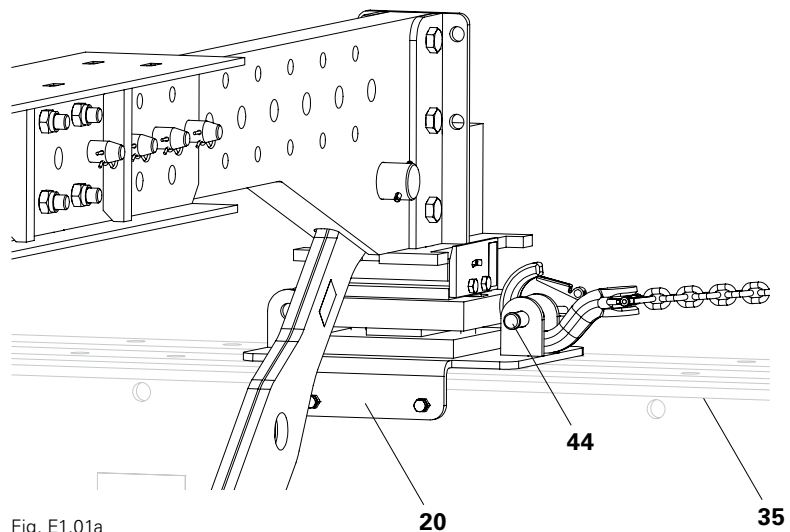

Fig. E1.01a
1. Lower the Main Beam (35), including the truss girder and formwork, onto the supports.
4. Attach the lifting chain to the centering plate (20) with the bolt (44) and secure with cotter pin. Repeat procedure at the other end of the truss package. (Fig. E1.01a)